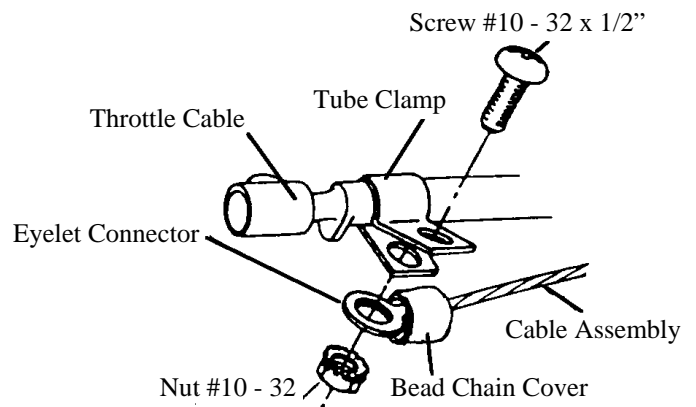

FIGURE 13
1. Select a **Tube Clamp** that fits the throttle cable. Make sure the tabs of the **Tube Clamp** point away from the carburetor or air throttle, this will prevent the throttle from hanging. (**Figure 13**)
3. Put **Screw #10-32 x 1/2"** through the holes in the **Tube Clamp**. Slide the **Eyelet Connector** over the **Screw**. Thread **Nut #10-32** onto the **Screw** and tighten. (**Figure 13**)